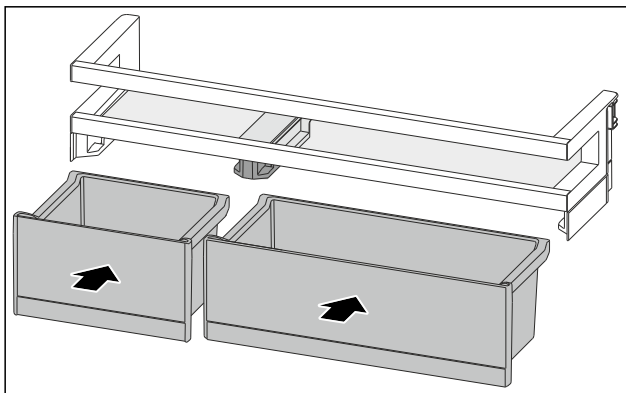

Fig. 108
- Insert the VarioBoxes opposite order. (see Fig. 108)